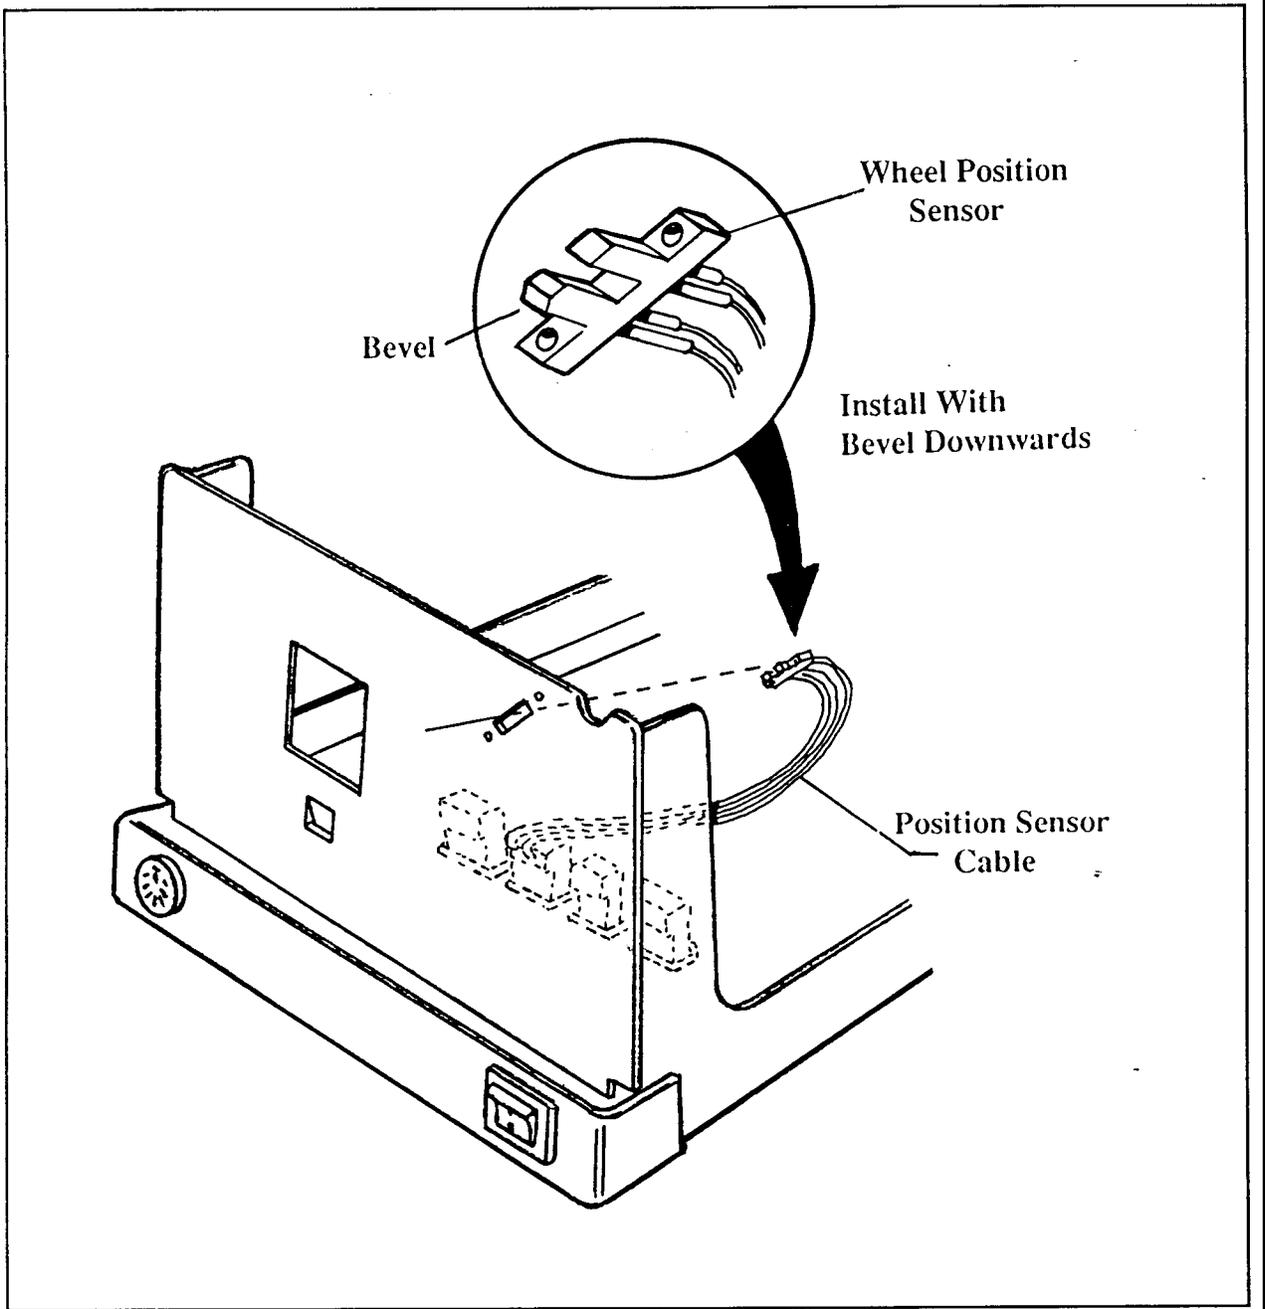

Figure 4-5 Wheel Position Sensor Replacement
1. REMOVAL: (Figure 4-5)
Note: Install the Sensor with the beveled prong downward (see inset in Figure 4-5).